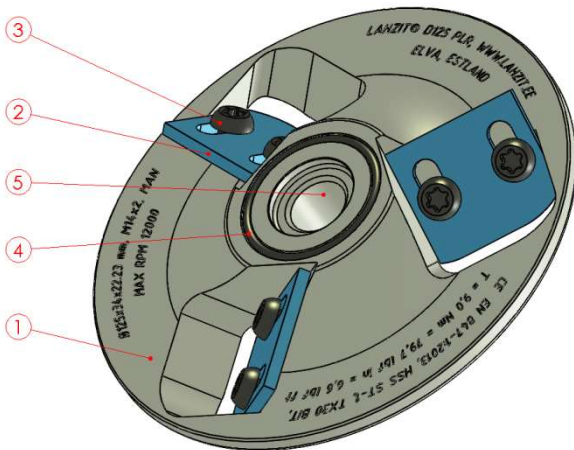
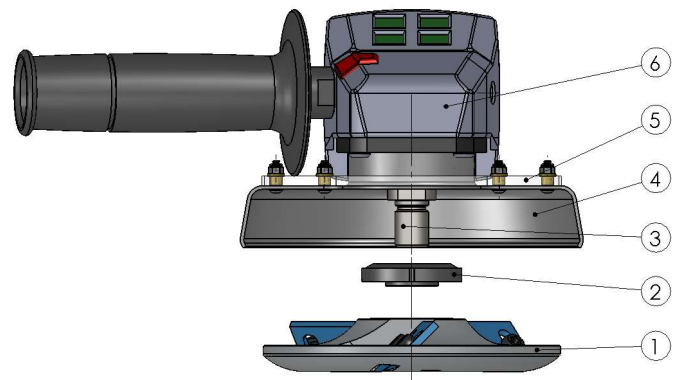

Fig 1. Complete log peeling and shaping tool D125 PLR shown with its main parts.
Fig 2. Attaching scheme of log peeling and shaping tool D125 PLR to the 5" (125 mm) angle grinder.
2. The log peeling and shaping tool D125 PLR (figure 1, pos. 1) will be attached to the angle grinder spindle using its internal reinforced thread 5/8"-11 (figure 1, pos. 5). Ensure that the grinder's disc flange (figure 2, pos. 2) is in use and its step edge with diameter 22.23 mm / 7/8" is directed towards the tool's fixing thread 5/8"-11 like it is shown on the figure 2. Make sure the rubber seal (O-ring) OR 32x2 mm (figure 1, pos. 4) is not damaged before fixing the tool to the grinder's spindle (figure 2, pos. 3). The log peeler tool kit always includes spare seal OR 32x2 mm, rubber mark NBR 70. This seal prevents to avoid tool loosening after angle grinder motor is turned off. It works as a frictional brake and therefore it is important to check this O-ring condition.
4. Always disconnect the grinder machine from the power source when changing cutting blades (figure 1, pos. 2) or when performing any general maintenance activities (such as adjusting or cleaning). Remove dust, wood resin etc. using a special brass cleaning tool which includes with the tool kit.
7. Ensure blades fixing **screws M6x12 ISO7380** (figure 1, pos. 3) are tightened. Screws must be tightened up to the **torque 9.0 Nm** (79.7 In. Lb. or 6.64 Ft. Lb.). Please use ¼" Torx T30 screwdriver bit, which included to the set of log peeler tool.